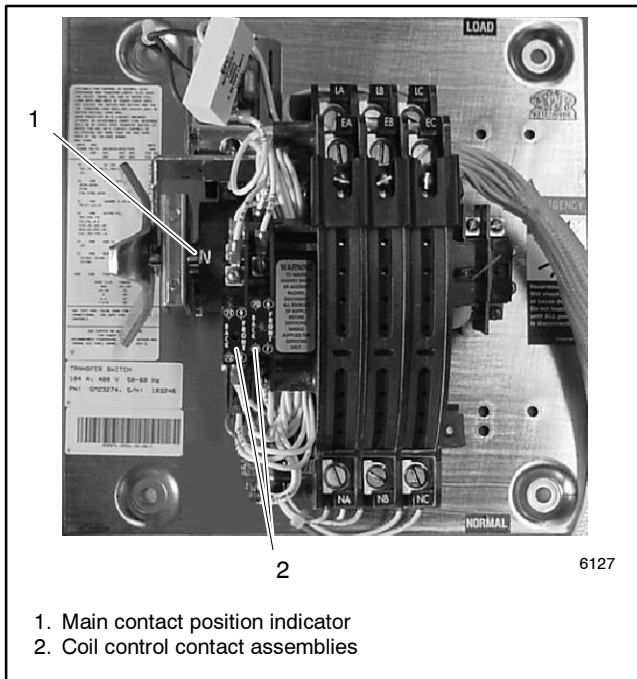

Figure 5-3 30-200 Amp Transfer Switches
3. Locate the TS coil control contact assemblies (see Figure 5-3).